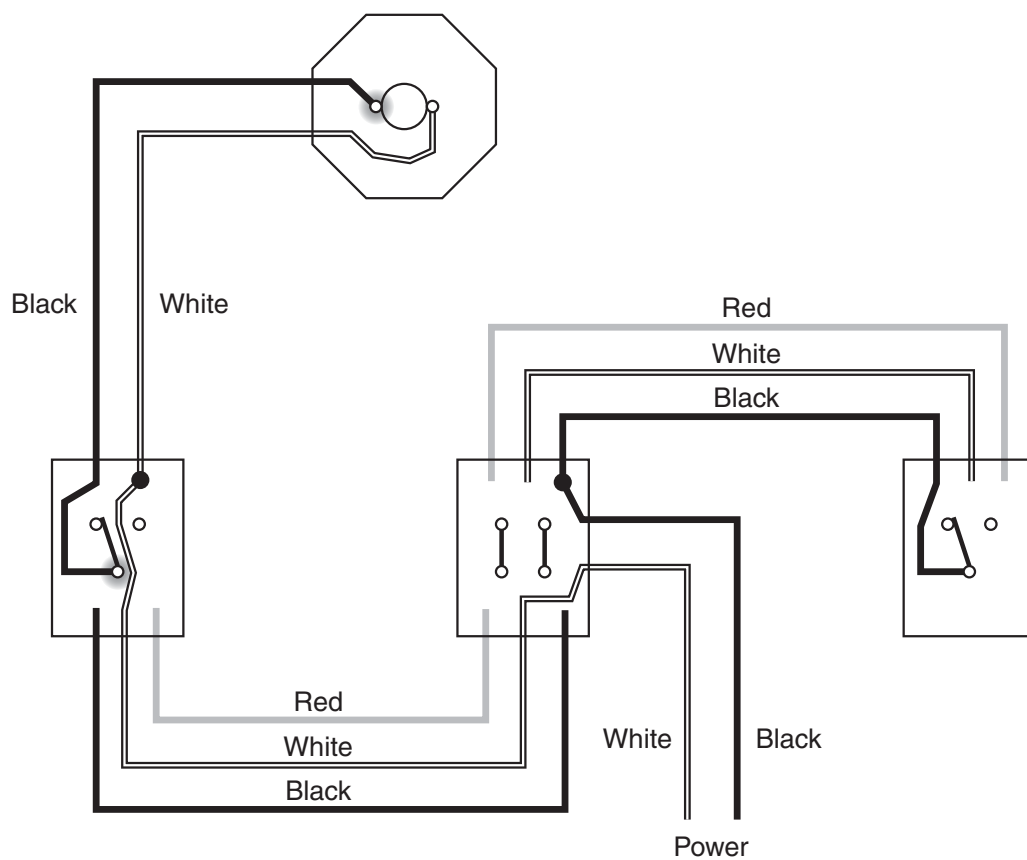

Figure 9-16 The other side of the light connects to the common terminal of the second 3-way switch.
3. *Connect the other side of the light to the common terminal of the other 3-way switch.* The black wire of the switch leg connects to the common terminal of the second 3-way switch and to the other side of the light (Figure 9-16).